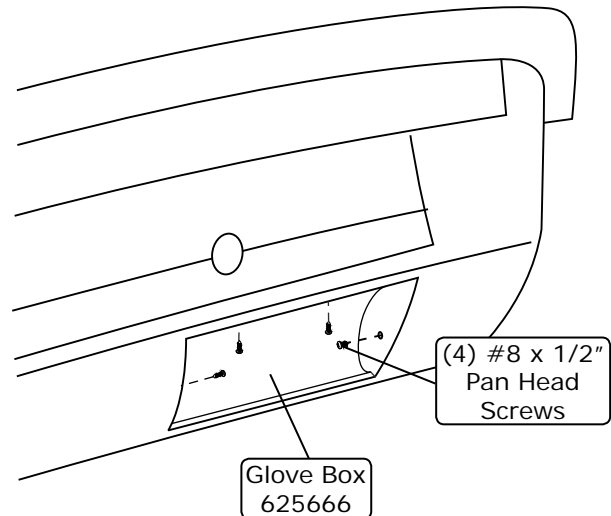

Figure 18
5. Install the supplied glove box using (4) #8 x 1/2" pan head screws (See Figure 18, below).